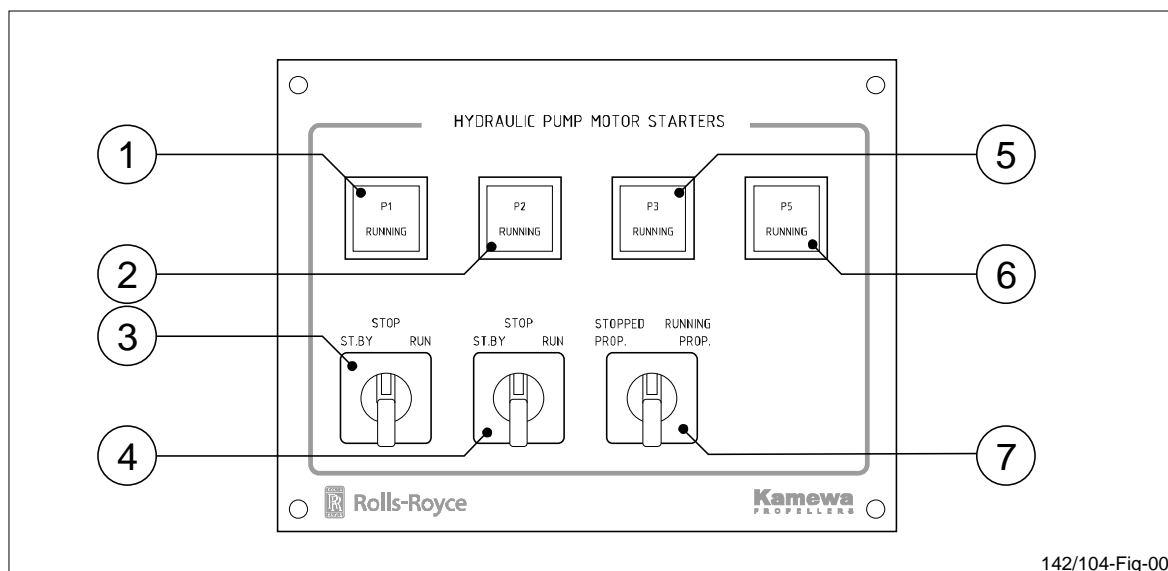

Figure 11 Example of a pump motor starter control panel.
When the propeller is running, the selector switch (pos 7, figure 11) for the pump unit P3 must be turned to RUNNING PROP. position.
When the propeller is stopped, the selector switch (pos 7, figure 11) for pump unit P3 can be turned to STOPPED PROP. position.